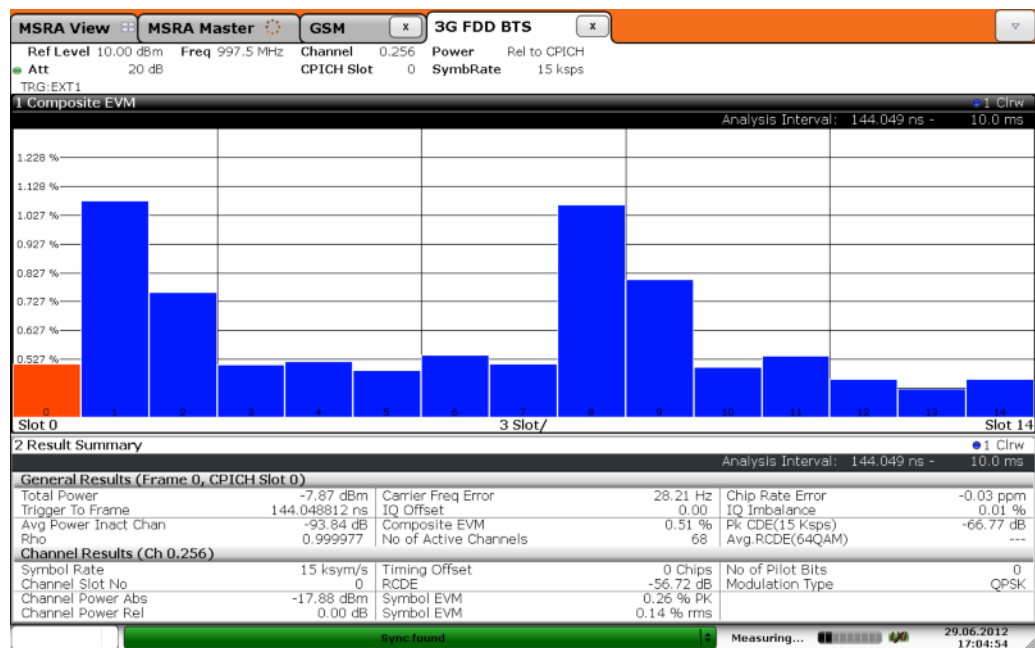

Figure 4: Composite EVM diagram of the WCDMA signal
6. To optimize the scaling of the diagram display, press the AUTO SET key and select "Auto Scale Window" (see figure 4).